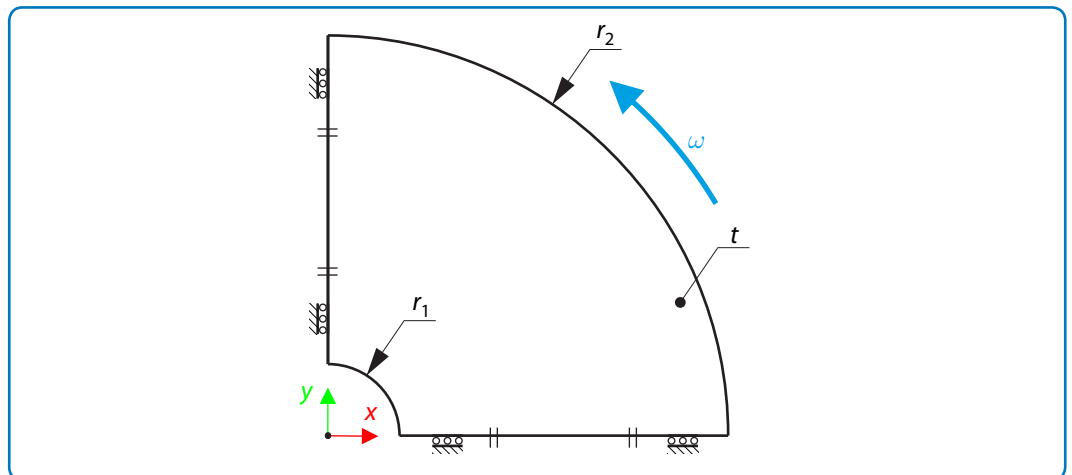

Figure 1: Problem Sketch
A compact disc (CD) rotates at a speed 10 000 rpm. Therefore, it is subjected to the centrifugal force. The problem is modeled as a quarter model, see **Figure 1**. The problem is described by the following set of parameters.